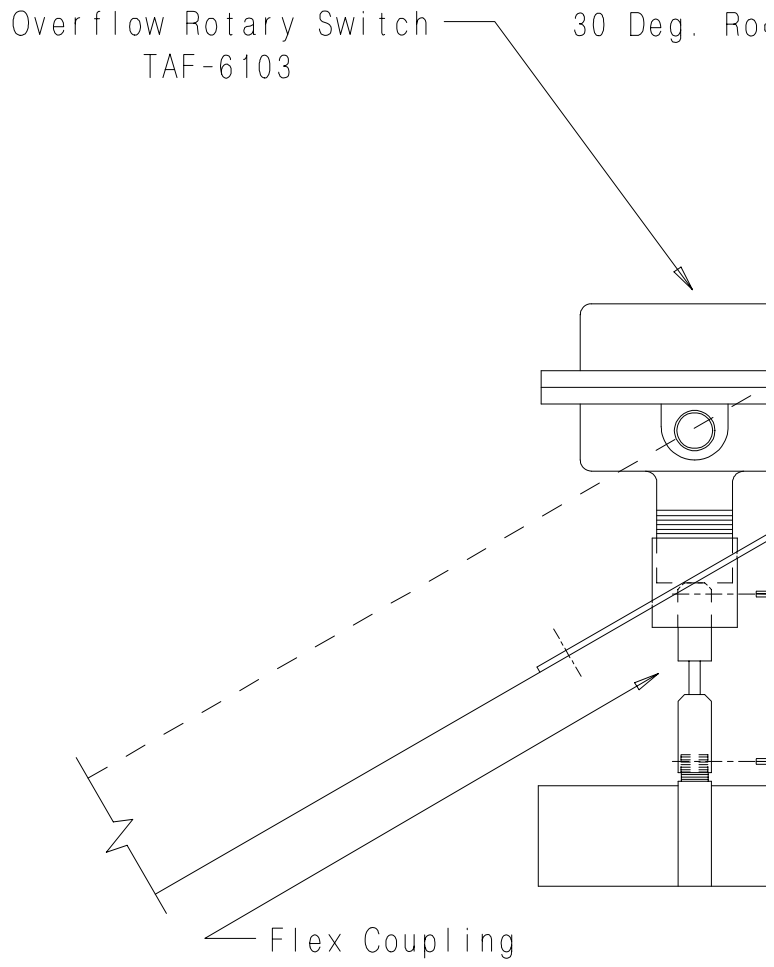

Figure 11
- 8) Attach the 3-vane paddle to the flex coupling as shown in figure 11.